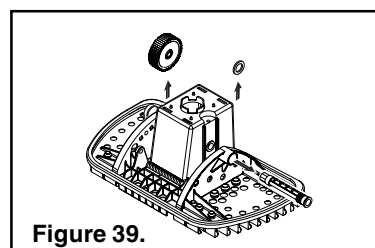

Figure 39.
7. Remove the Oscillator Sleeve, releasing the Oscillator Sleeve Bushing and the Clutch assembly, (see Figure 39).